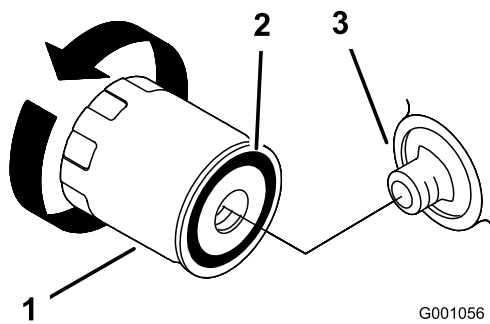

Figure 26
2. Remove the old filter and wipe the filler adapter gasket surface (Figure 26).
3. Apply a thin coat of new oil to the rubber gasket on the replacement filter (Figure 26).
4. Install the replacement oil filter to the filter adapter, turn the oil filter clockwise until the rubber gasket contacts the filter adapter, then tighten the filter an additional 2/3 to 1 turn (Figure 26).